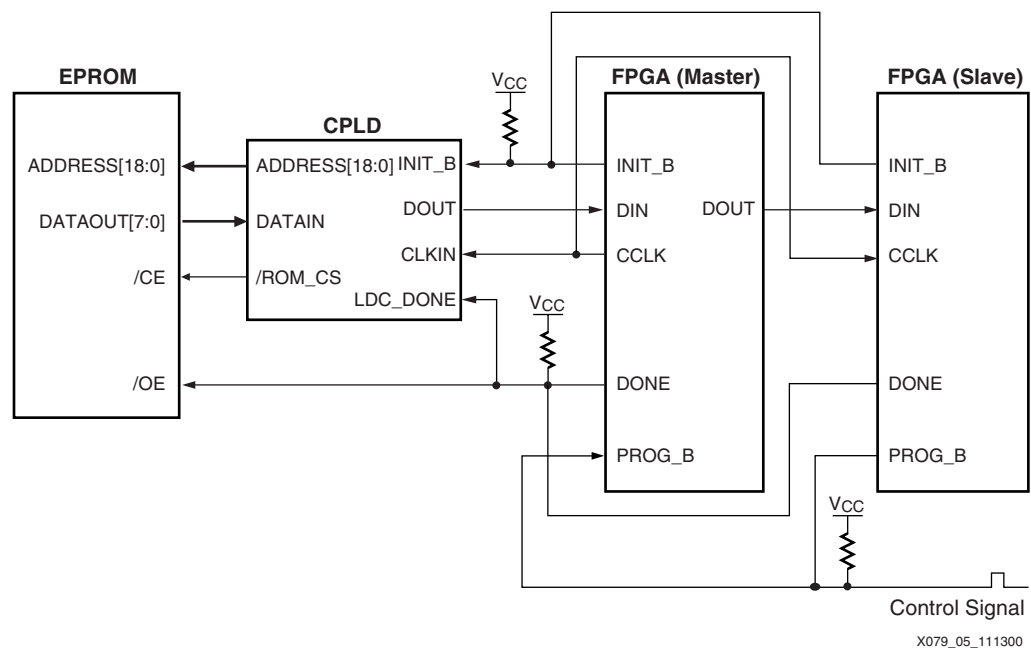

Figure 3-8: Configuring Virtex-II Using a CPLD and Parallel PROM
- XAPP079: *Configuring Xilinx FPGAs Using an XC9500 CPLD and Parallel PROM* (www.xilinx.com/apps/xappsumm.htm#xapp079) describes an architecture that configures a chain of Virtex-II devices using Master-Serial mode. See Figure 3-8 for an example of FPGA configuration using a CPLD and a parallel PROM.